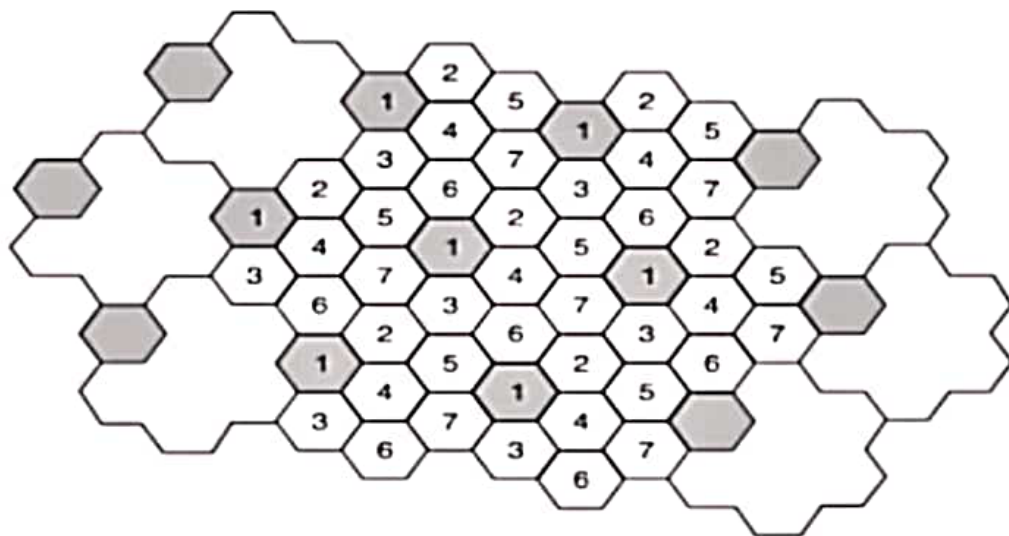

Fig.11. Cellular mobile telephone system.
- So far, no problem since the same frequencies may be used in widely separated cells. Suppose unit -A, being mobile, now moves into cell B as in Fig.11.